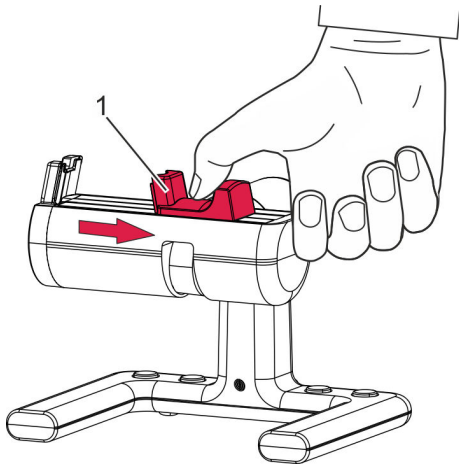

Fig. 15: Tightening the clamping jaws
1. ➤ Pull the clamping jaw (Fig. 15/1) outwards and hold it.